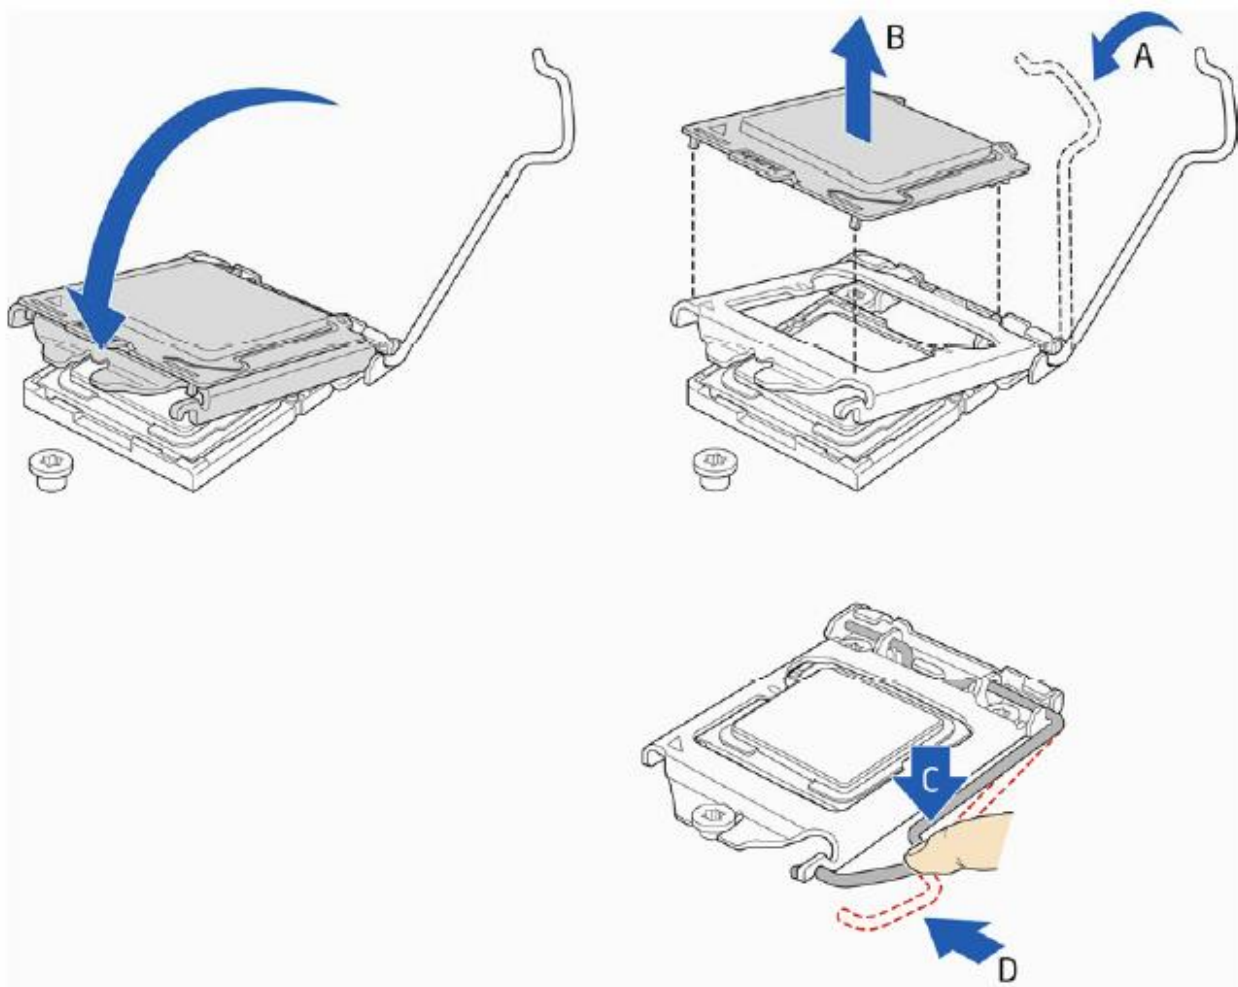

Figure 17: Secure the load plate in place
- Carefully lower the socket lever (Figure 17, A) while making sure that the front edge of the load plate slides under the shoulder screw cap as the lever is lowered. Latch the socket lever under the load plate tab (Figure 17, C, and D). The socket cover (Figure 17, B) will pop off as shown.